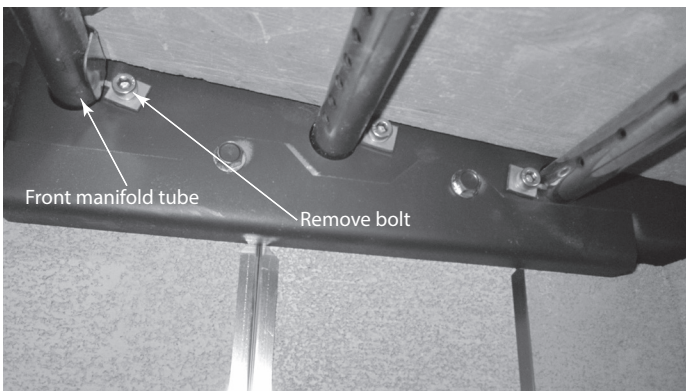

Figure 4.6 Remove Retainer Bolt
3. Using a 3/16 inch Allen wrench, remove the front manifold tube retainer bolt on the air channel behind the end of the front tube on the right side. See Figure 4.6.